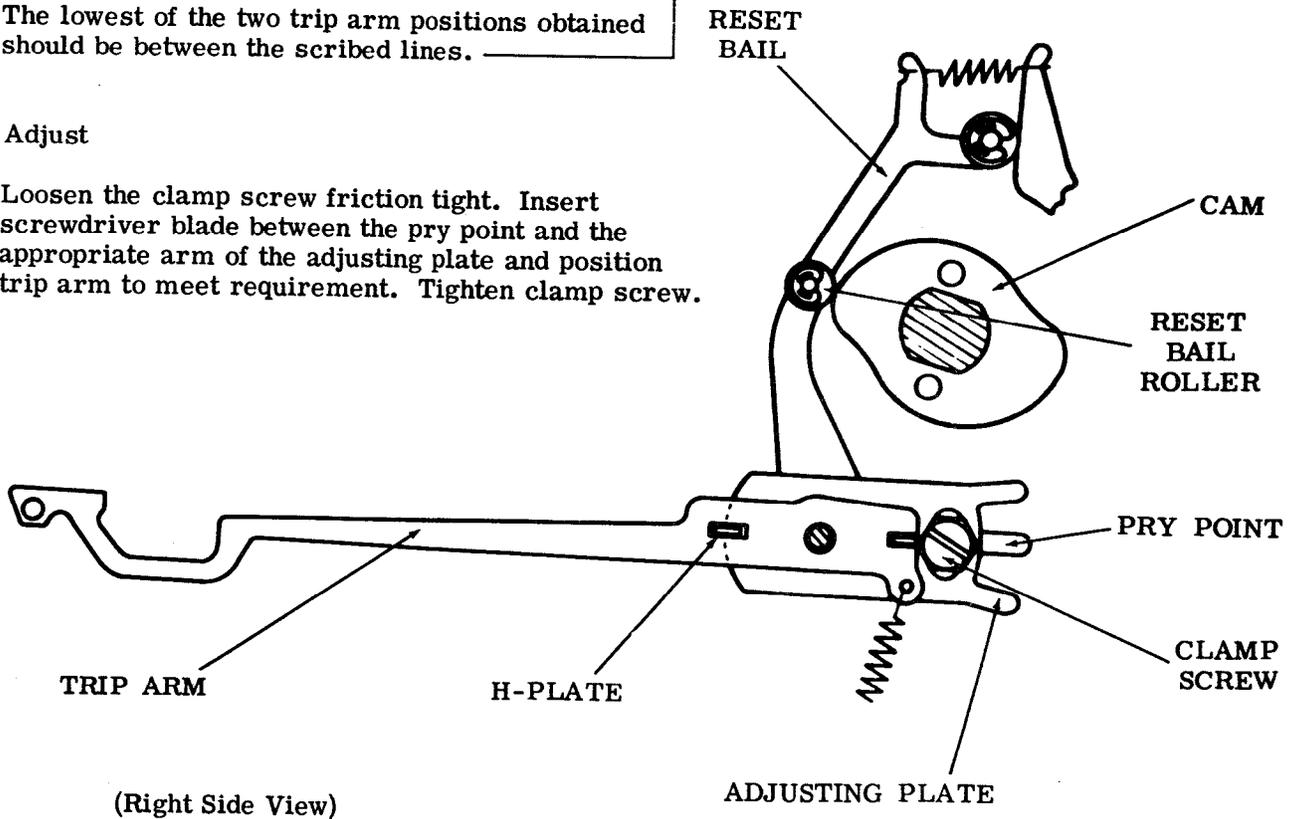

Figure 5 - Keyboard Trip Arm Adjustment
- (6) Adjust keyboard trip arm following the procedures given in Figure 5.
- (7) Remove the two screws and lockwashers holding the intermediate gear guard to the typing unit base and remove the guard. Loosen the five motor mounting screws and move the motor away from engagement with the intermediate gear assembly.
- (8) Using the pry points at the rear of the intermediate gear assembly, adjust the intermediate gear assembly from front to rear until there is a barely perceptible backlash between the main shaft driven gear and the intermediate drive gear. This backlash